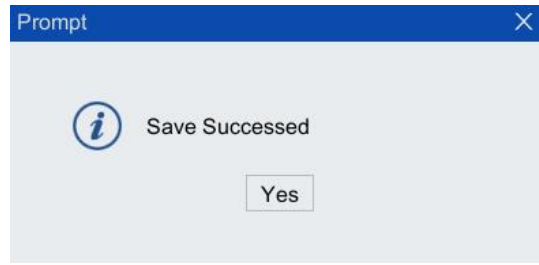

Figure 5-56 "Save Succeeded " dialog box
- Step3. Click "Save" button below to pop up "Save Succeeded" dialog box in Figure 5-56, and then the setting will be completed.